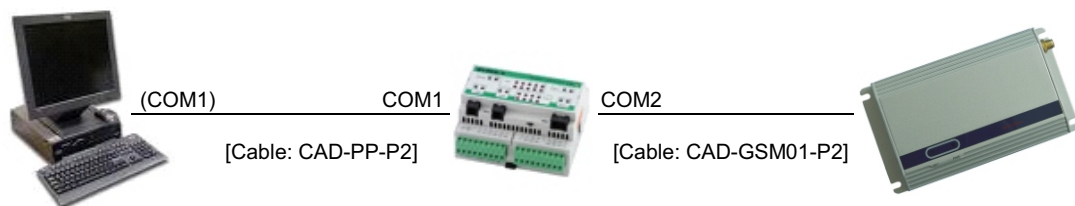

Figure 3: Connecting schematic.
- 21) Connect CyBro-2 to PC using programming cable and run CyPro development tool (Figures 3 and 4).